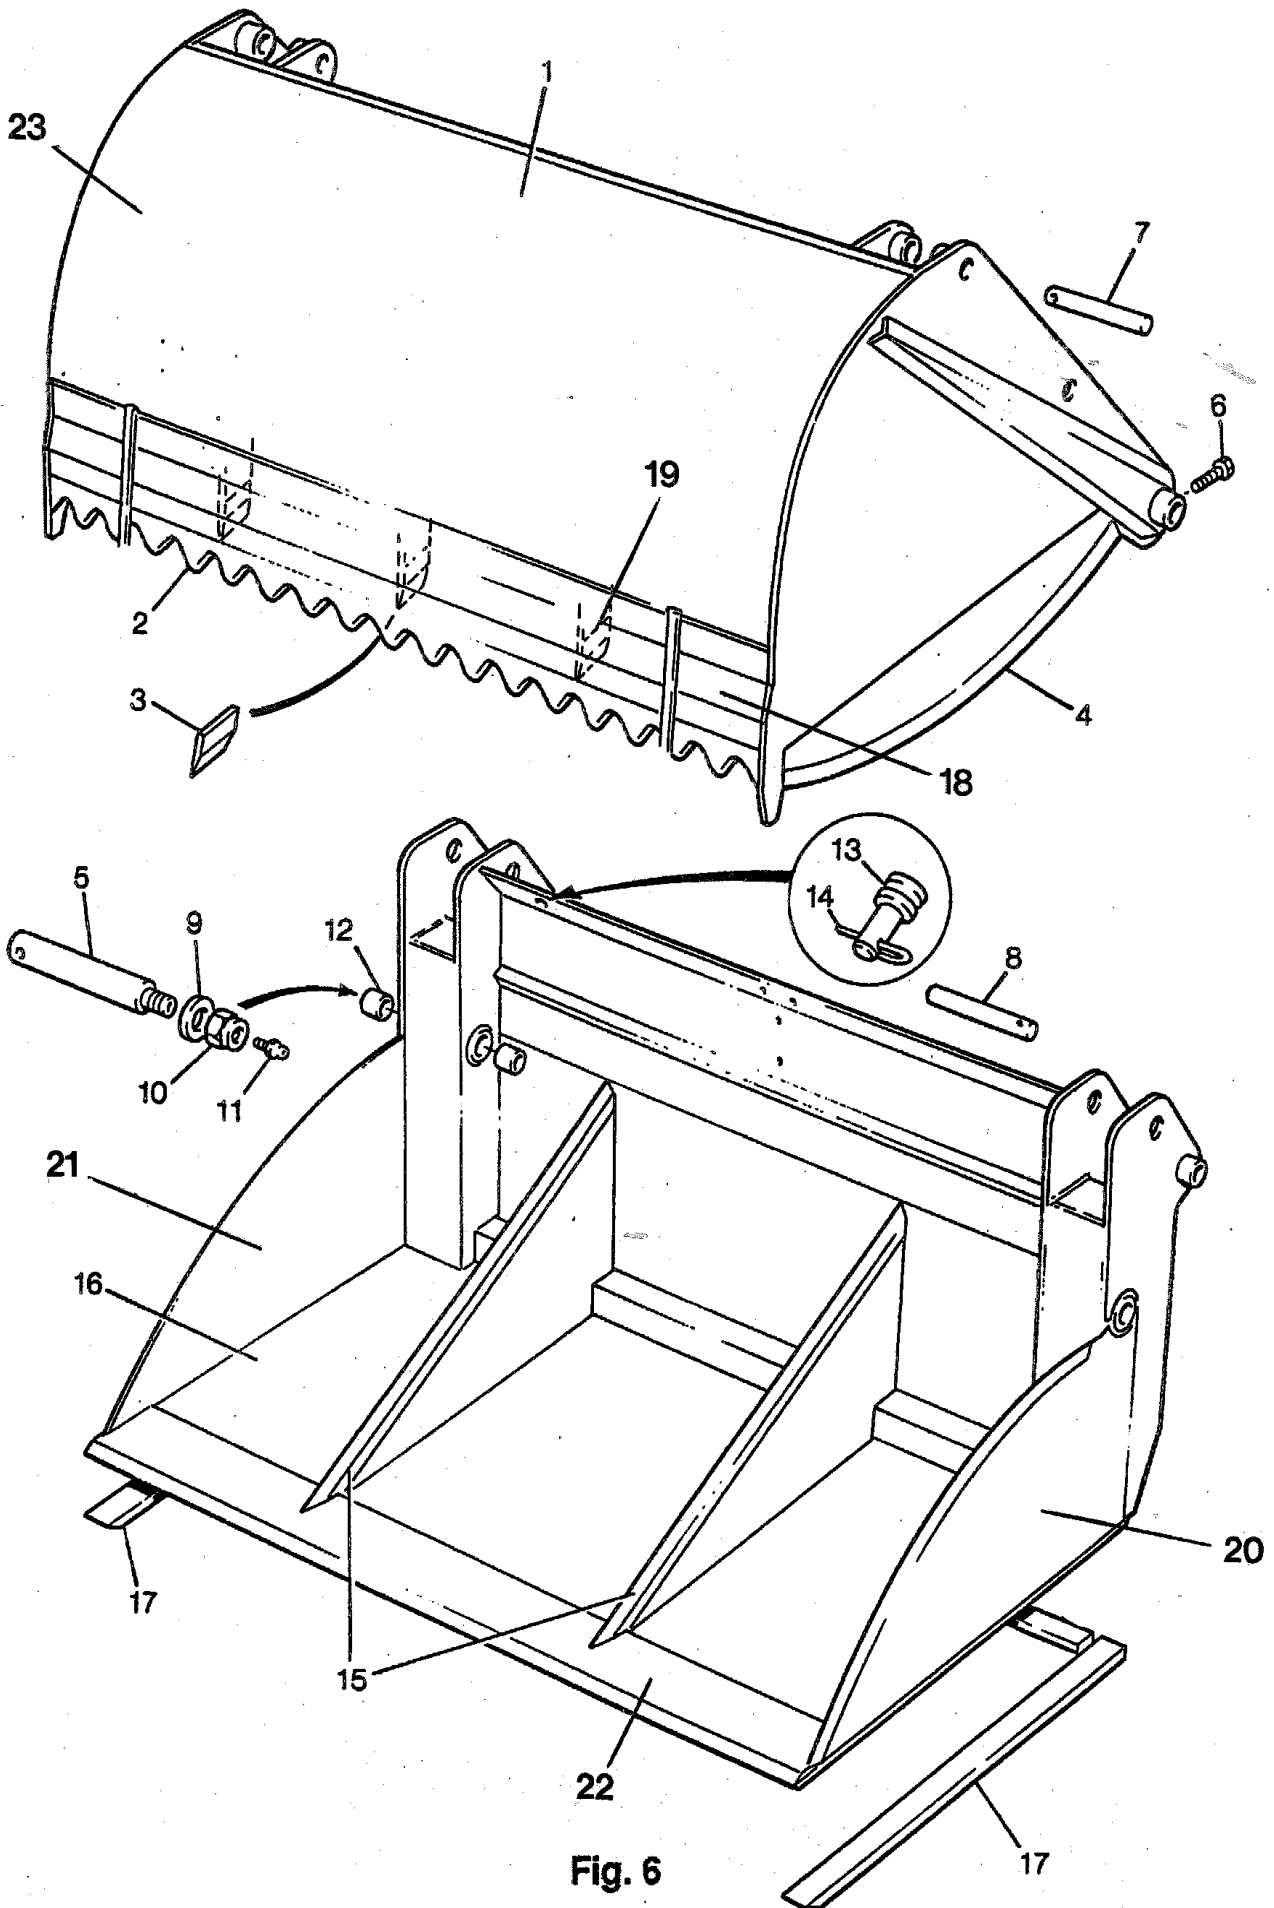

Fig. 6
2. Check bottom plates for wear. (See Fig. 6.)